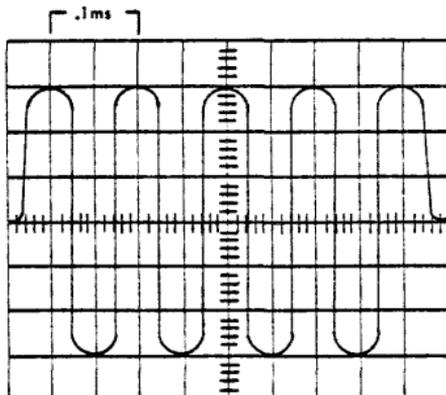

FIGURE 13
- The wave form (as viewed on the scope) should appear as in Figure 13. The distance between the positive peaks must be .1 ms.